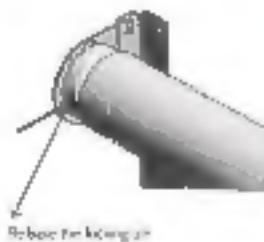

Fig. 5
5. When the blind is fully secure in both brackets, gently release the locking pin (Fig. 5. Release the pin) (Do not pull pin all the way out). **Remember to release the locking pin before operation.**